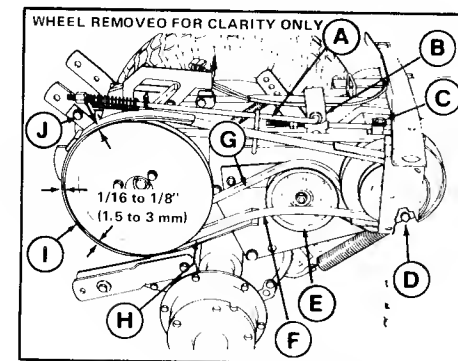

Figure 18. Replacing Drive Belts
3. Remove the cotter pin (B, figure 18) from the brake rod (A). Then remove the inner drive belt from inside the brake rod bracket.
4. Remove the capscrew with lockwasher (H) holding the bottom of the transmission pulley belt retainer (I).
5. Remove the taptite screw (J) holding top of belt retainer, and slide the belt retainer and brake rod assembly out the rear of the tractor.
6. Remove the taptite screw (D) from